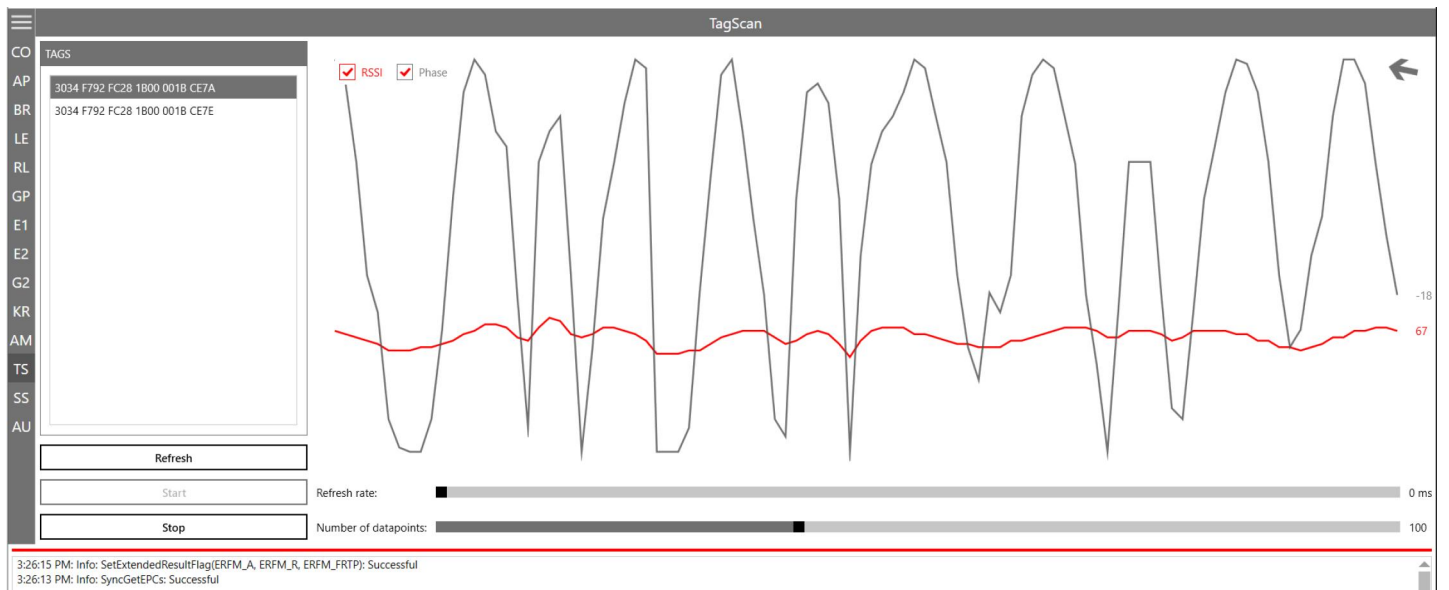

Fig. 78: TagScan: phase shift, transponder is moved
①	ETSI	selects the frequency area
②	Antenna 1-n	selects an antenna from the drop-down menu
③	Start	starts SpectralScan
④	Stop	stops SpectralScan
⑤	Reset maxima	resets maxima
If there is more than one reader, spectral scan shows which channels might be occupied by other readers. In Fig. 78, p. 112, the channels 4, 10 and 13 are occupied by other readers. If the user is not satisfied with the reading results and the interferences keep occurring, it is possible to deactivate channels on which the interference occurs (4, 10 and 13) and only activate the channel that is free (7) to achieve better reading results, see ⑩ in Fig. 56, p. 93.